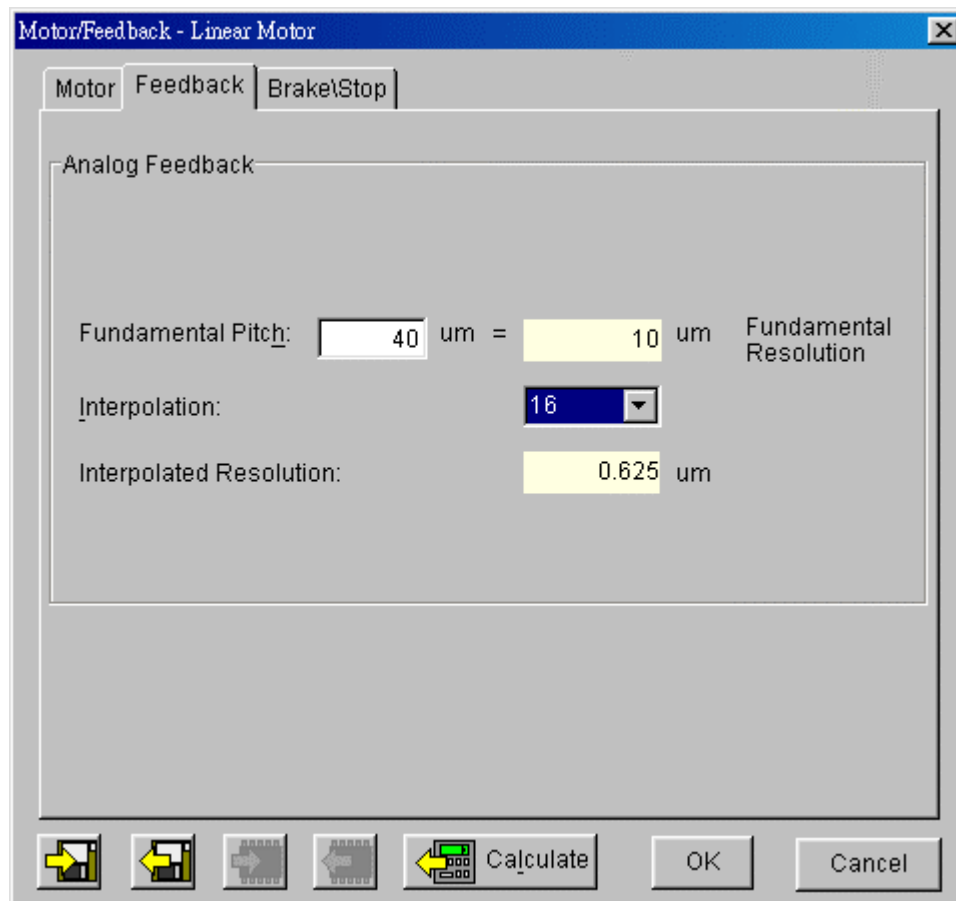

Fig. 9 Feedback
- b. If encoder was set to analog encoder, Fig. 9 will appear. Please enter the correct fundamental resolution and interpolation value according to the feedback hardware. (i.e. Renishaw RGH41B resolution is 40  $\mu\text{m}$ , shown in Fig. 10. If Interpolation is set to 16, then resolution is 0.625 $\mu\text{m}$  (one encoder count = 0.625  $\mu\text{m}$ ).